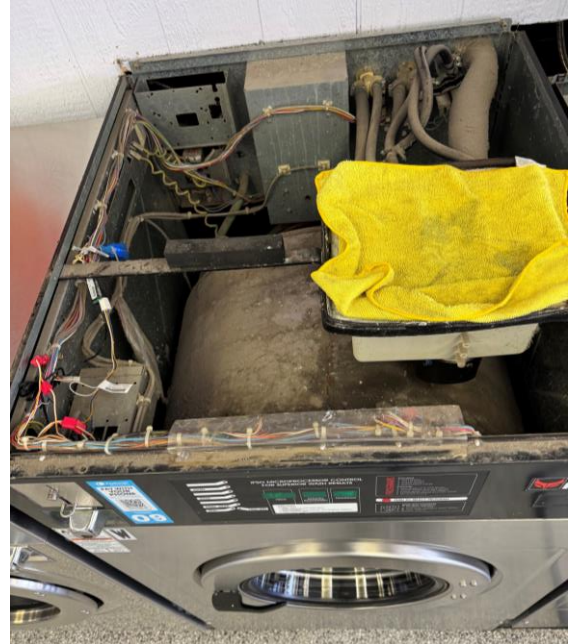

Figure 6
- b. Remove the top machine cover, see **Figure 6**.